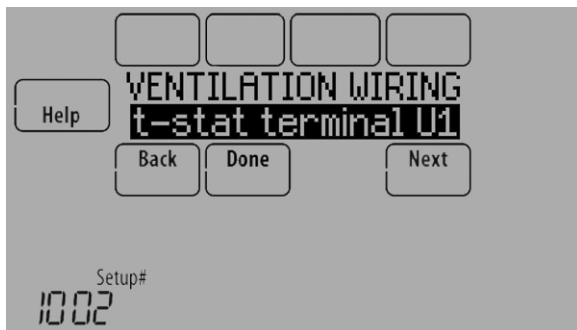

Fig. 158.
2. Select the terminals wired to the Ventilator (or Fresh Air Damper). See Fig. 158.